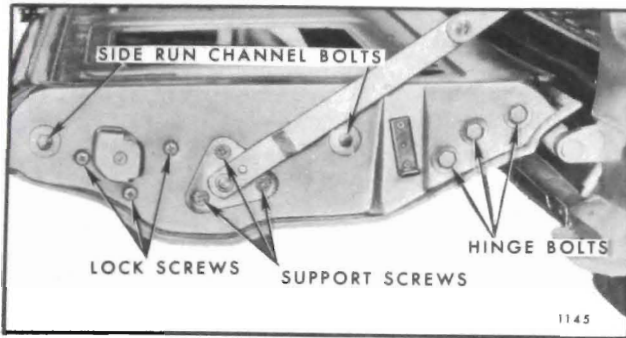

Fig. 9-19 — Tail Gate Lock and Support
3. Remove screws securing lock to tail gate. (See Fig. 9-19).